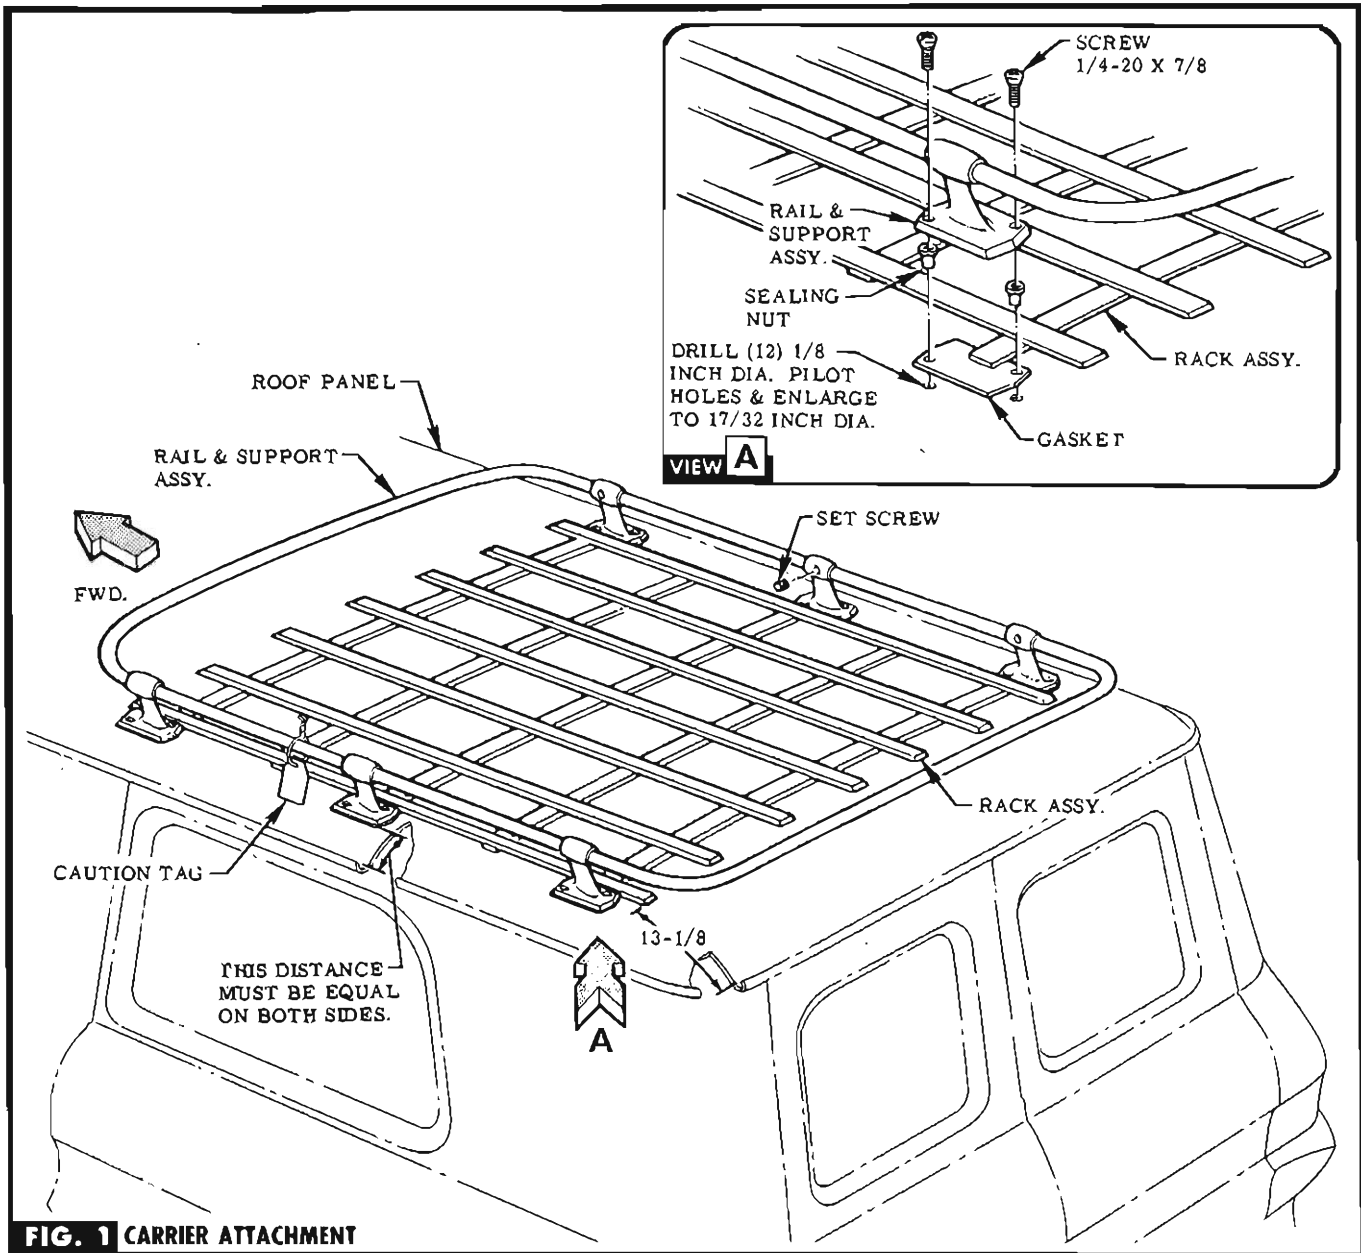

FIG. 1 CARRIER ATTACHMENT
STEP 3 PLACE RACK ON ROOF PANEL & ALIGN. SEE FIG. 1 & VIEW A.
STEP 4 PLACE RAIL & SUPPORT OVER ENDS OF RACK CROSS BARS & ADJUST SUPPORTS TO FIT ROOF SURFACE. SEE FIG. 1 & VIEW A.
REMOVAL. REMOVE RAIL & SUPPORT. SEE FIG. 1.
STEP 9 PLACE RACK OVER GASKETS, INSTALL RAIL & SUPPORT ON RACK & GASKET WITH SCREWS PROVIDED. TIGHTEN SET SCREWS IN SUPPORTS. SEE FIG. 1 & VIEW A.
NOTE Caution tag must be in place for customer information on the use of carrier. SEE FIG. 1.